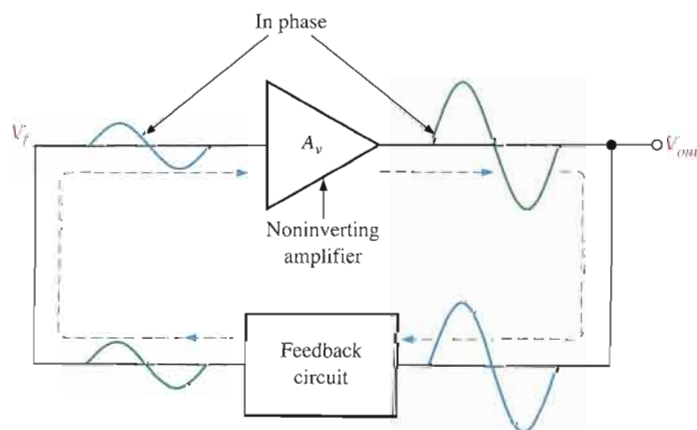

FIGURE 16–3
Positive feedback is characterized by the condition wherein an in-phase portion of the output voltage of an amplifier is fed back to the input with no net phase shift, resulting in a reinforcement of the output signal. This basic idea is illustrated in Figure 16–3. As you can see, the in-phase feedback voltage, V_f , is amplified to produce the output voltage, which in turn produces the feedback voltage. That is, a loop is created in which the signal sustains itself and a continuous sinusoidal output is produced. This phenomenon is called *oscillation*.
Two conditions, illustrated in Figure 16–4, are required for a sustained state of oscillation:
► FIGURE 16–4
So far, you have seen what it takes for an oscillator to produce a continuous sinusoidal output. Now let's examine the requirements for the oscillation to start when the dc supply voltage is first turned on. As you know, the unity-gain condition must be met for oscillation to be sustained. For oscillation to *begin*, the voltage gain around the positive feedback loop must be greater than 1 so that the amplitude of the output can build up to a desired level. The gain must then decrease to 1 so that the output stays at the desired level and oscillation is sustained. Ways that certain amplifiers achieve this reduction in gain after start-up are discussed in later sections of this chapter. The voltage gain conditions for both starting and sustaining oscillation are illustrated in Figure 16–5.